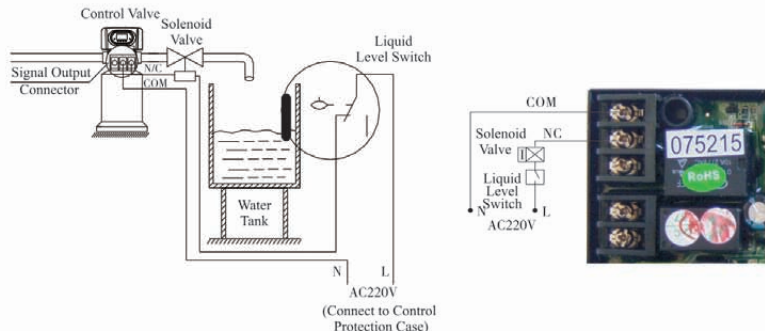

Figure 3-1 Wiring of Solenoid Valve on Outlet
① Solenoid Valve on Outlet Controls the Water Level in Brine Tank.
**Instruction:** If system requires no hard water flowing from outlet in regeneration cycle (Mainly for no hard water flows out when valve is switching or valve in backwash or brine drawing status), a solenoid valve could be installed on outlet, the wiring refers to Figure 3-1.